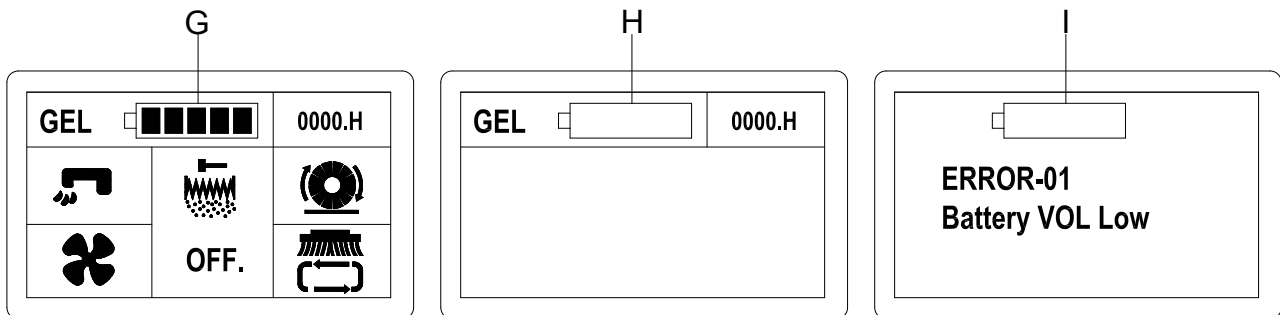

Figure 8
1. When the battery icon displays full battery level (G, Figure 8), the batteries are fully charged.
2. When the battery icon displays low battery level (H, Figure 8), the batteries must be charged. Several seconds after the low battery level is displayed, the Main broom/Side broom/Vacuum/Pump/Filter shaker motors are automatically turned off, while the drive system remains on. Drive the machine to the designated charging area to charge immediately.
3. When battery voltage is very low, an error warning "Battery VOL Low" (I, Figure 8) will flash on the screen. Main broom/Side broom/Vacuum/Pump/Filter shaker motors are automatically turned off, and the drive system is also turned off to protect the batteries.